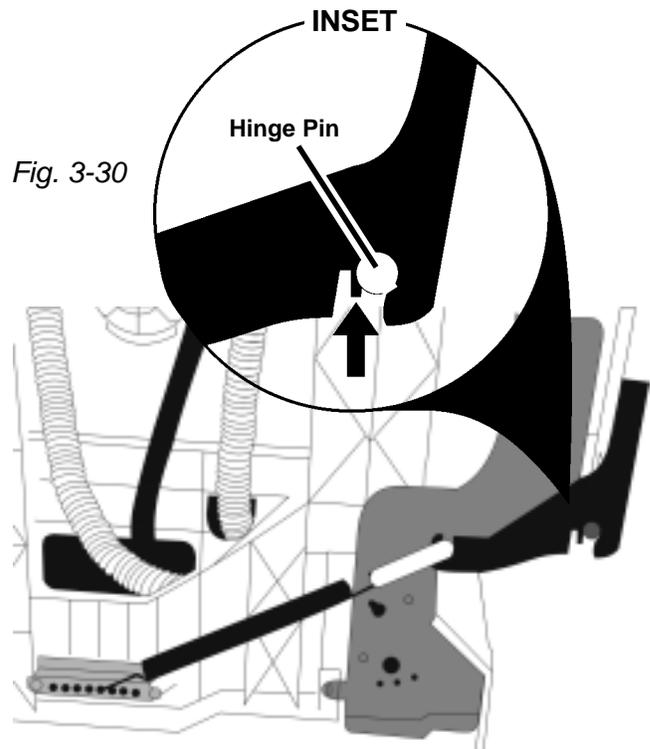

Fig. 3-30
2. Remove the door spring from the tension adjustment at the bottom of the unit and then remove the spring link from the door hinge plate (Fig. 3-30).
3. Using a pair of pliers, slightly bend the tab on the door hinge plate to open the slot for the hinge pin. (Fig. 3-30, INSET- Arrow points at tab).
6. Lift the door up to disengage it from the hinge pin (*Fig. 3-30, INSET*) and then carefully pull the hinge plate from the inner door panel.